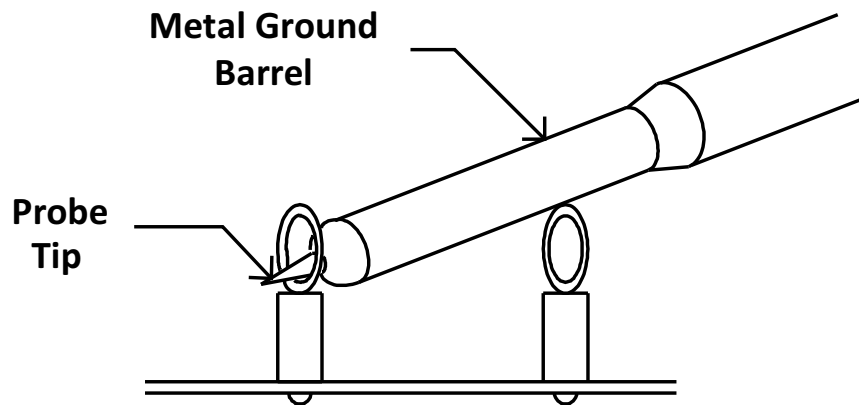

Figure 3. Tip and Barrel Measurement
**Oscilloscope:** An oscilloscope is recommended for measuring output noise and ripple. Output ripple must be measured using a tip-and-barrel method or better as shown in Figure 3. The scope must be adjusted to 20-MHz bandwidth, AC coupling at 50 mV/division, and must be set to 1- $\mu$ s/division.